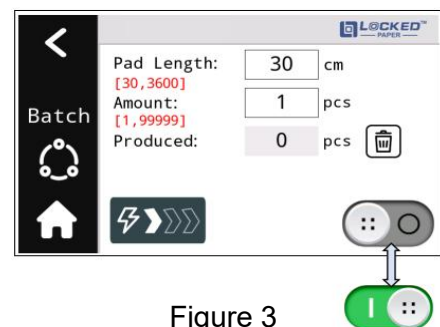

Figure 3
1) Tap  in the homepage to enter this mode. (Figure 3).